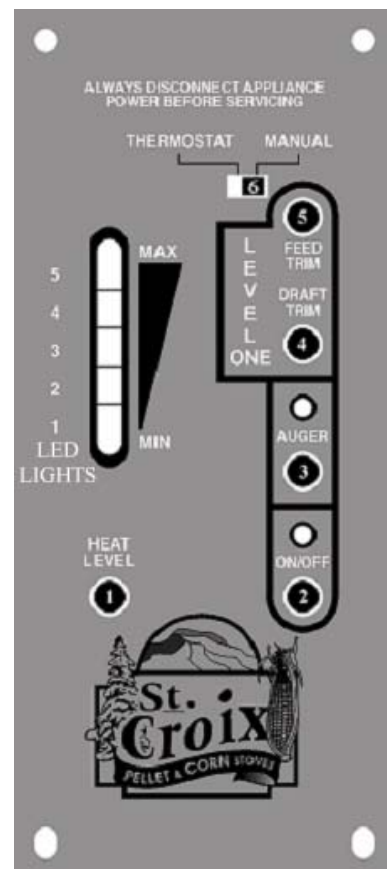

Figure 3
A closer look at the Control Board to the right in figure 3 will explain how the board works. There are five buttons labeled 1 through 5, a slide switch labeled 6 and a LED Light bar with 5 Heat Settings. *The LED Light bar is also used during the Diagnostic process, see page 9 for more details.*
The buttons on the board function as follows: (Refer to Figure 3. The touch pad buttons and Slide Switch are labeled with the white numbers 1 through 6)
4. Close the door and push the On/Off button on the control board. (*Button #2, see figure 3*)
Shutting The Stove Off (Refer to Figure 3)
2. The **High Limit** switch. This sensor will sense if the unit reaches temperatures that are too high for normal operation. If this happens the Auger will quit feeding and the #2 and #3 LED lights will flash simultaneously. (See Figure 3 on Page 7 and point 6 on page 22)
3. The **Vacuum** Switch - For the stove to operate, the Firebox needs to be sealed. During the first 30 seconds after the stove has been turned on the Control Board will check if the switch senses negative pressure (Vacuum) in the Firebox of the stove. If there is no negative pressure, the stove will shut down and the #2 LED will start blinking. (See Figure 3 on Page 7 and point 4 on page 21).